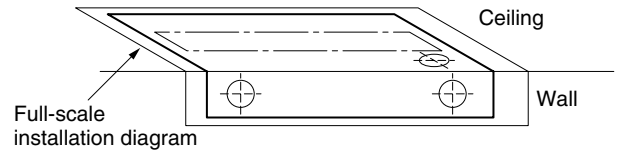

Fig. 3-120
- (1) Place the full-scale diagram (supplied) on the ceiling at the spot where you want to install the indoor unit. Use a pencil to mark the drill holes. (Fig. 3-120).